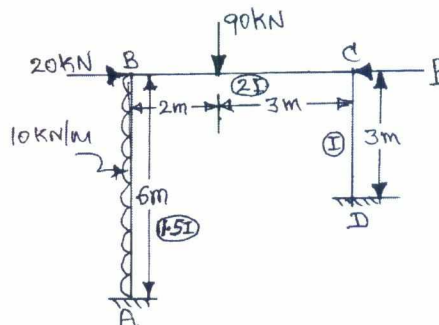

Fig. Q4
- 4 Find the total force P to be applied at C to prevent sway shown in Fig. Q4. Use slope deflection method. (20 Marks)